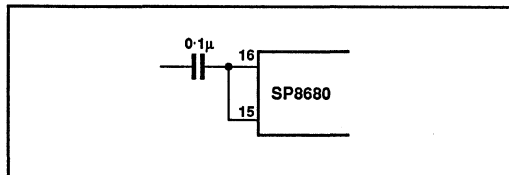
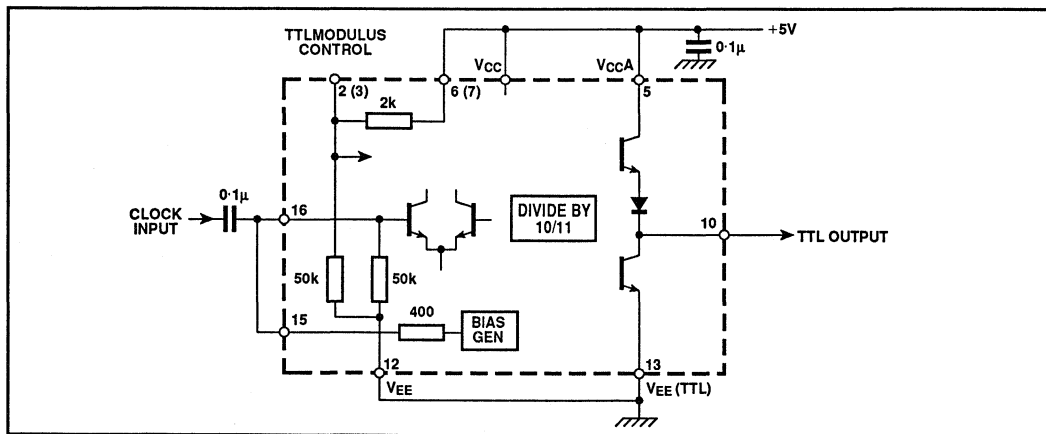
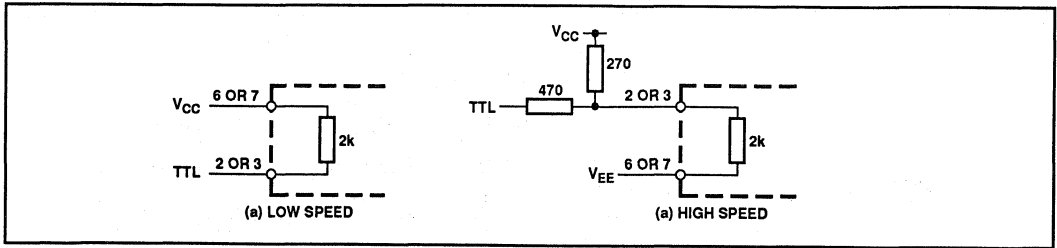

Fig. 7. AC coupled input
Fig. 8 Typical application showing TTL interfacing.
Fig. 9 TTL interface to $\overline{PE1}$ and $\overline{PE2}$
1. The clock input, which is ECL10K compatible throughout the temperature range -55°C to $+125^{\circ}\text{C}$, can also be coupled to TTL as shown in Fig. 9. The clock can also be capacitively coupled to the signal source (see Fig. 7). Connecting the internally-generated bias voltage to the clock input i.e., pin 15 to pin 16, centres the clock input about the switching threshold (see Fig. 8).
4. Both control inputs ($\overline{PE1}$ and $\overline{PE2}$) are ECL10K compatible throughout the temperature range. Each control input is provided with a pullup resistor, the remote ends of which are connected to pins 6 and 7, respectively. This allows the pullup resistors to be unused if so desired or to be used to interface from TTL (see Fig. 9). If interfacing to ECL is required then pins 6 and 7 should be left open circuit; alternatively, they can be connected to V_{EE} to act as pulldown resistors. When high, the master set input sets the divider to the eleventh state, is asynchronous and overrides the clock input.